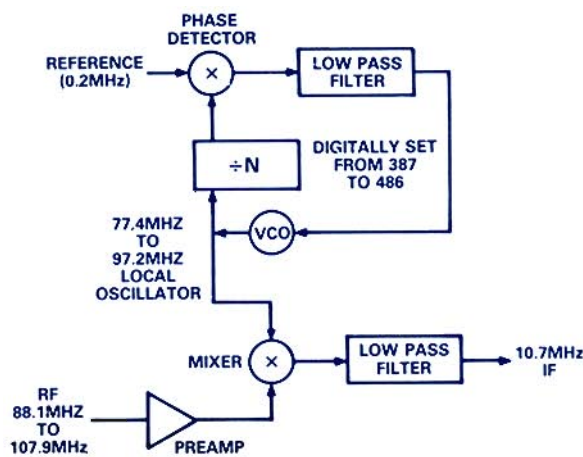

Figure 5. Digitally-controlled frequency synthesizer in mixer application.
Frequency Synthesis (Figure 5): These characteristics are significant in frequency-synthesis applications, where a multitude of local oscillator (LO) frequencies are generated by the VCO for the mixing stage of a superheterodyne receiver, but must have the stability and accuracy of a single reference. Since the divided-down output of the VCO must be equal to the reference frequency